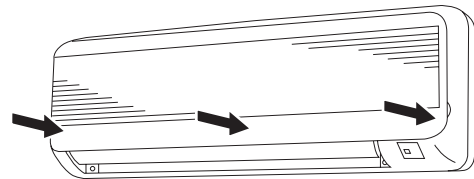

Fig. 1-74b
- (3) Press at each of the 5 tabs to completely close the grille. Make sure that the grille and frame are firmly fitted together. (Fig. 1-74b)